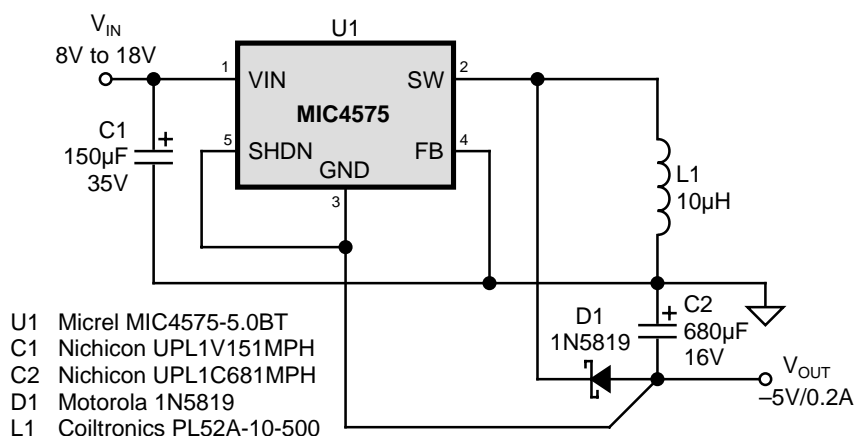

Figure 2. MIC4575 Discontinuous Design (8V–18V to $-5V/0.2A$)
Figure 2 shows a design that eliminates a level-shifting op amp by connecting the MIC4575 ground pin (GND) to the negative output voltage and the feedback pin (FB) to ground. The only drawback to this scheme is that the shutdown signal is now referred to the $-5V$ output instead of to ground, requiring a level-shifting transistor to implement this function.
A discontinuous design, as in Figure 2, eliminates the RHP zero because an RHP zero occurs only in continuous mode. This produces the simplest circuit, although output current is one-half and peak current is about double when compared to an equivalent continuous design.